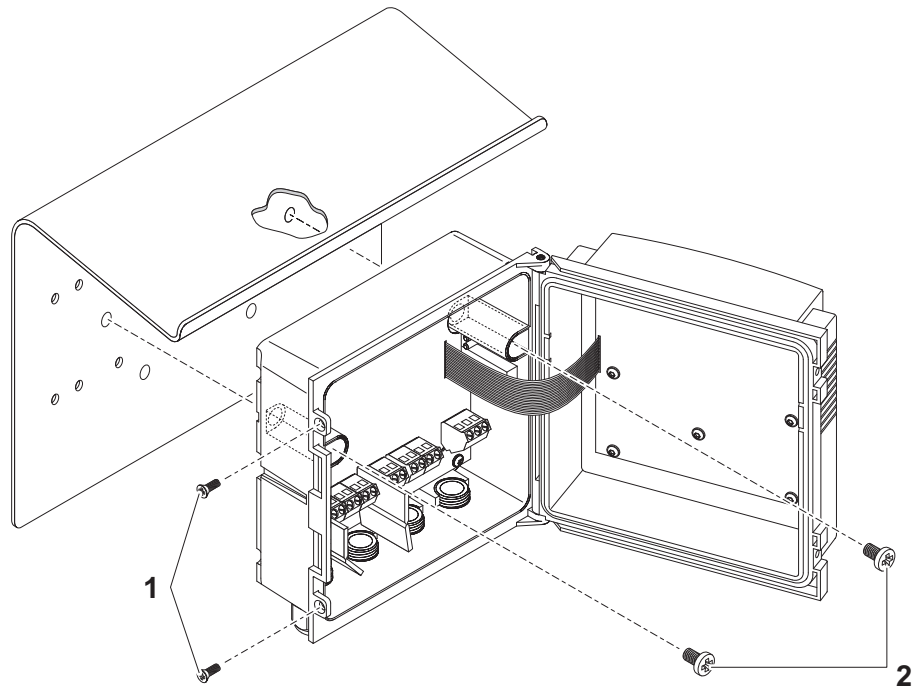

Fig. 3-6 Mounting the DIQ/S 181 with sun shield SD/K 170
1	Remove the two countersunk screws (pos. 1 in Fig. 3-6) and swing open the module lid.
2	Position the universal transmitter on the sun shield and fix it into place with the two screws (pos. 2 in Fig. 3-6).
3	Close the lid and fix it with the two countersunk screws (pos. 1 in Fig. 3-6).